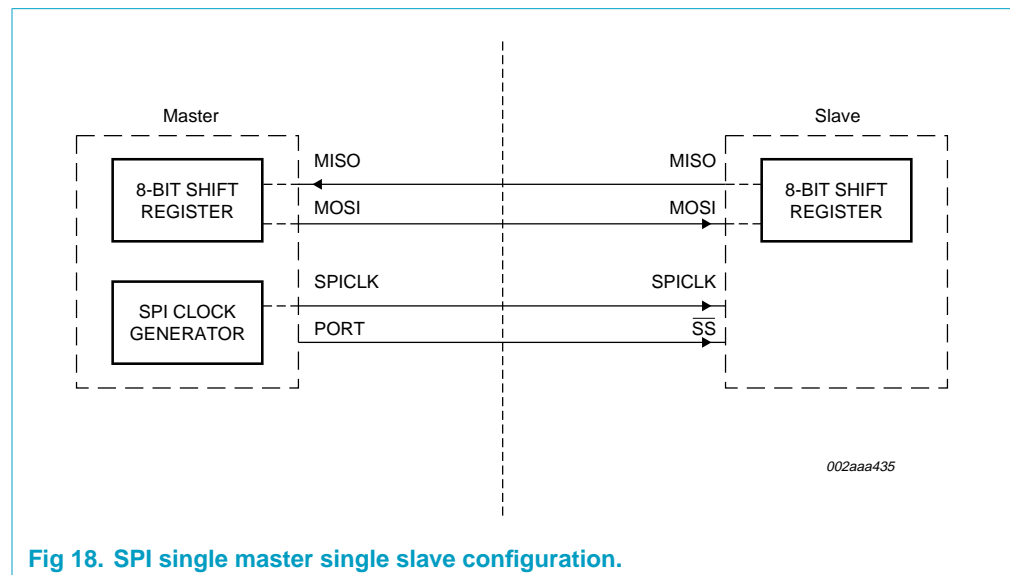

Fig 18. SPI single master single slave configuration.
Typical connections are shown in Figures 18, 19, and 20.
- The 89LPC913 does not have the slave select pin, \overline{SS} . The SPI interface is set to Master mode and an I/O pin may be used to implement the \overline{SS} function. Typical connections are shown in Figures 18 and 19.